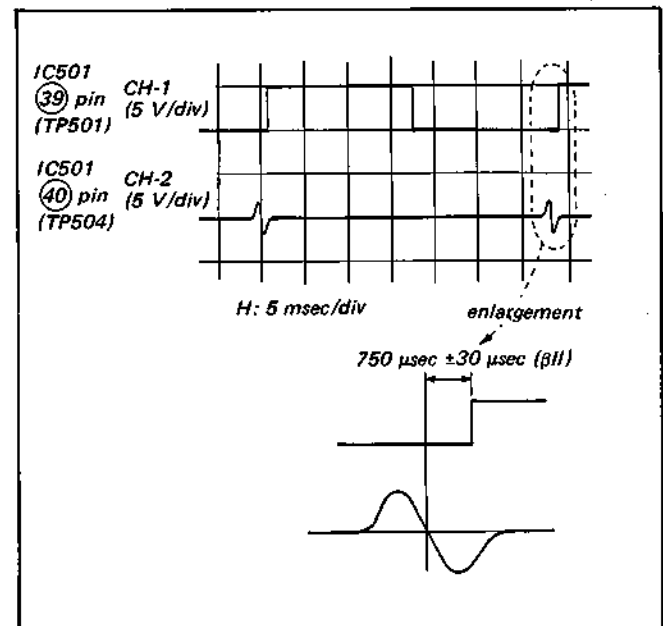

Fig. 5-10. RF switching position adjustment (2)
- (2) Change connection of CH-2 only to pin 40 of IC501 (TP504), and then adjust to 750 μ sec \pm 30 μ sec with RV519. (β I switching pulse B) (See Fig. 5-10)